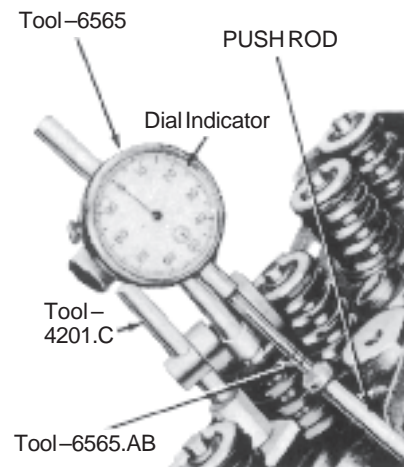

Fig. 3 Testing Camshaft Lobe Lift-Rocker Shaft Mounted Rocker Arms
3. Make sure the push rod is in the valve lifter socket. Install a dial indicator in such a manner as to have the ball socket adapter of the indicator on the end of the push rod and in the same plane as the push rod movement (Fig. 3 or 4).